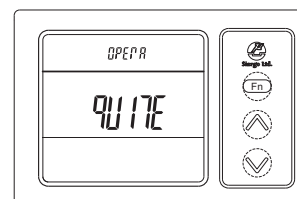

Figure 6-7 Function setup menu
(3) Function setup menu (Figure 6-7):